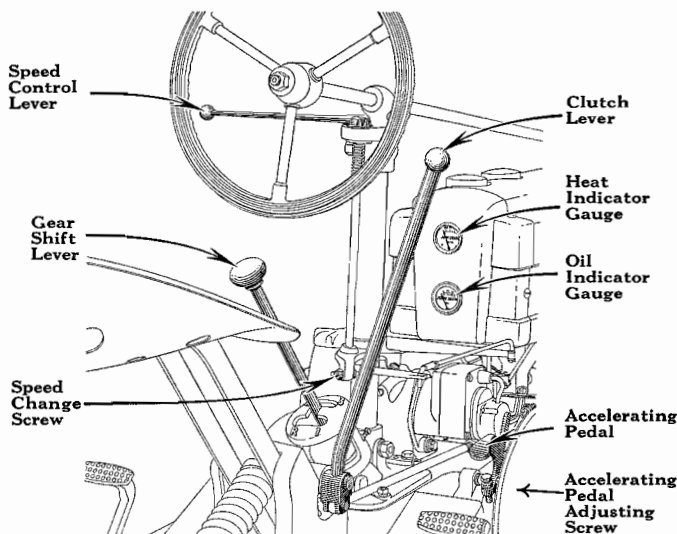

Fig. 3.
1. Oil pressure gauge must show between "M" and "H" when engine is cold. (Fig. 3.)
2. When heat indicator shows 180° (Fig. 3) turn on fuel. (Fuel control handle on mark "F".)
R.P.M. for full load and approximately 1540 for idling. Under no circumstances should this speed be varied. If after continued use, speed is checked with a reliable speed indicator and correction is necessary, the engine speed can be adjusted by the set screw in lower bracket on steering shaft post. (Fig. 3.) Turning the set screw in increases speed; turning set screw out decreases speed. Keep throttle and governor control rods clean and working free.
9. The engine speed with the accelerating pedal completely down should be 1800 R.P.M. If when checked as described in paragraph 8, it is found the engine does not run 1800 R.P.M., it can be adjusted by the screw in the accelerating pedal. (Fig. 3.) Turning the screw in, decreases speed, and turning the screw out, increases speed.